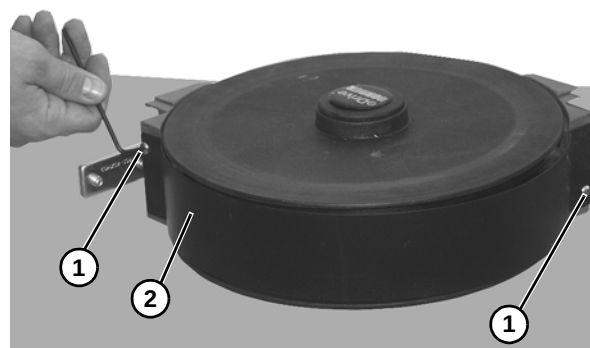

Figure 8
1. Remove two screws (**Figure 8, item 1**) and guard (**Figure 8, item 2**) from curve assembly.